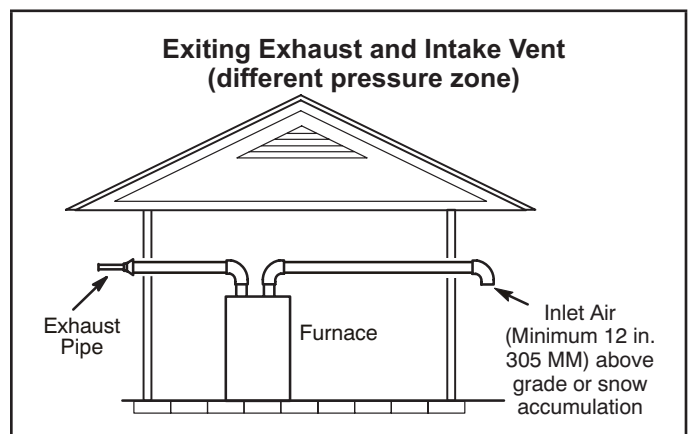
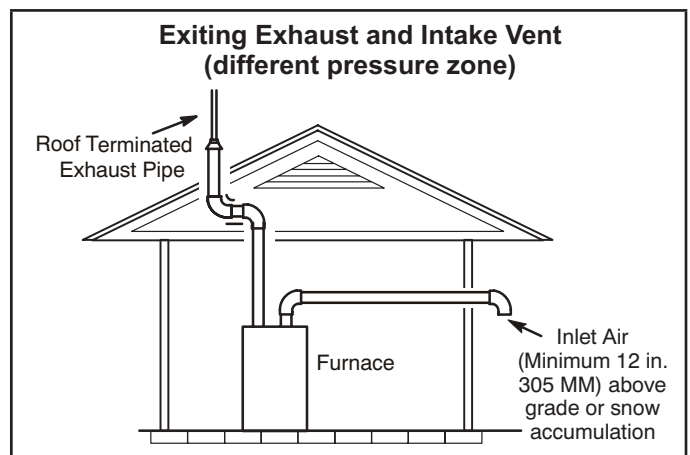

FIGURE 37
FIGURE 38
- 1 - Vent terminations are not required to be in the same pressure zone. You may exit the intake on one side of the structure and the exhaust on another side (FIGURE 37). You may exit the exhaust out the roof and the intake out the side of the structure (FIGURE 38).